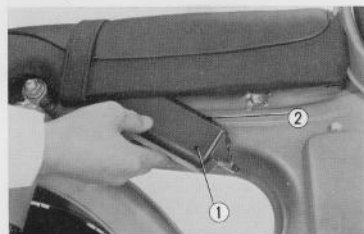

Fig. 4.54 Tool box ① Tool box ② Tool kit
- The tool box ① for the S 90, CL 90 and CL 90 L is attached to the bottom, right side of the seat. Tighten the wing lock nut to prevent loss. (Fig. 4.54)